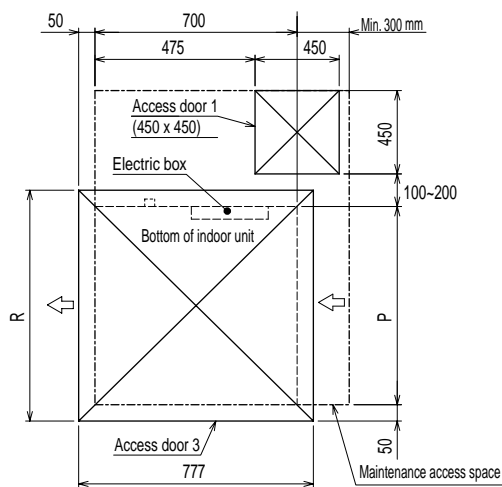

Fig. 4 (Viewed from the direction of the arrow B)
- Create access door 1 diagonally below the electric box and access door 3 below the unit as shown in Fig. 4.